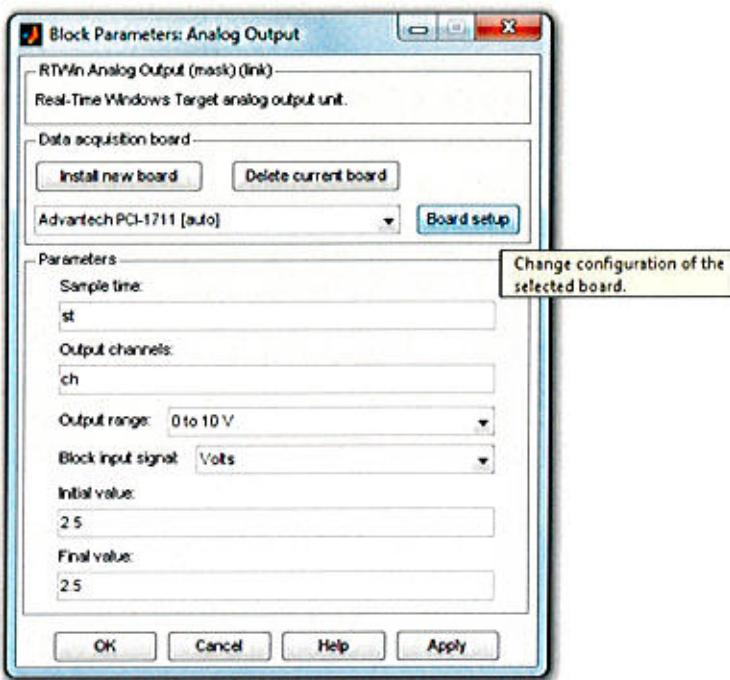

Figure 39 Selecting the I/O Card
- If the PCI-1711 card experiment is run for the first time we can double click on the Digital Output block and register the PCI-1711 card in Matlab environment (Figure 39).